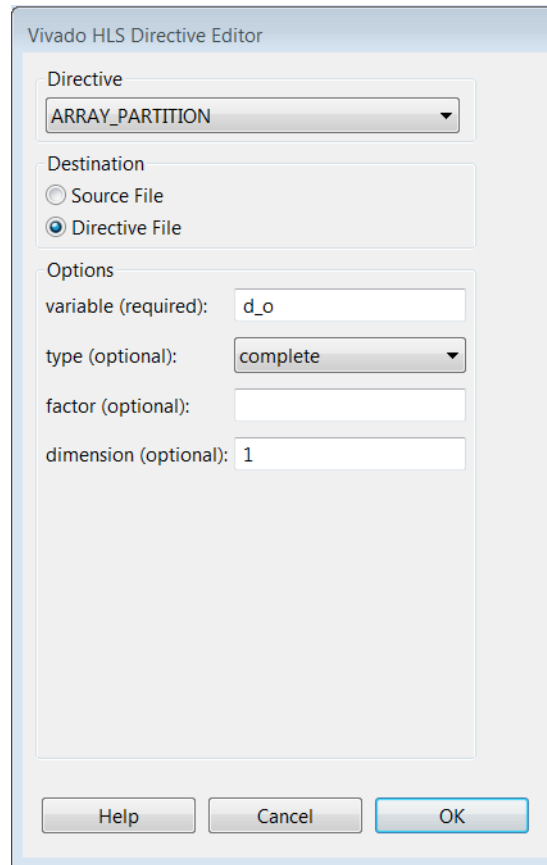

Figure 4-25: Directive Editor for Partitioning Array d\_o
- c. With the Directive Editor as shown in Figure 4-25, click **OK**.